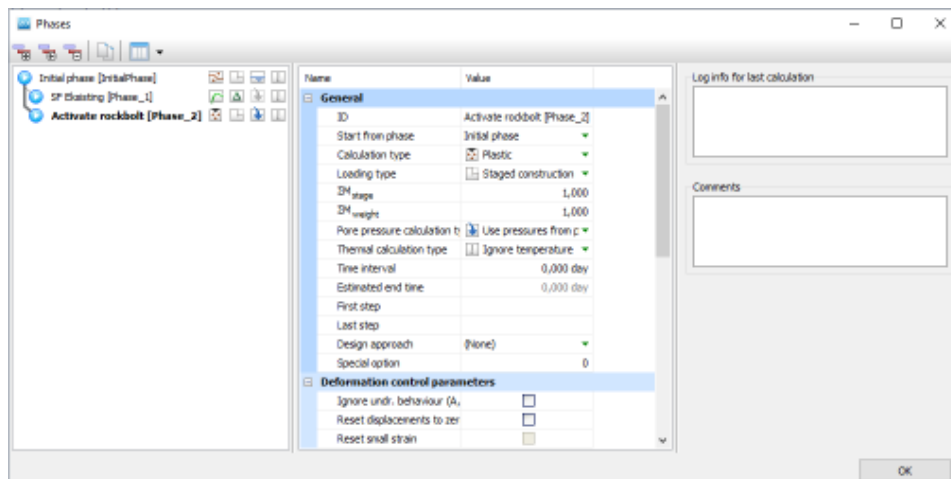

Figure 11: Phase 2.
- Make sure this **Phase, start from phase (Initial phase)** (Figure 11).